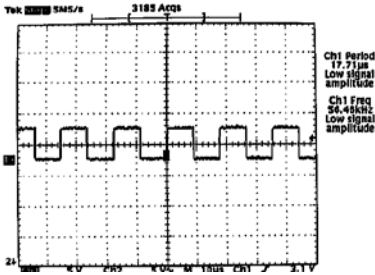

Figure 3.
5. Verify the comparator square wave on Pin 5 of U4 (Figure 3). Turn OFF one of the channels with the front panel DISABLE switch to verify the operation of the other channel.